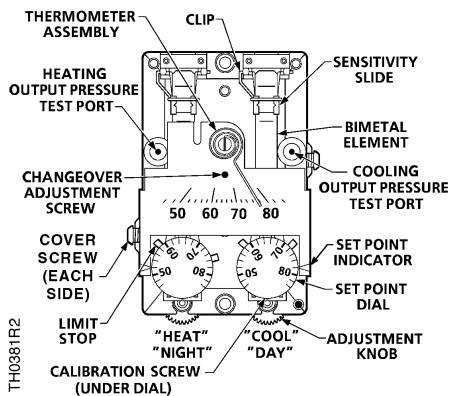

Figure 4. TH193 HC Thermostat Details.
- Place a screwdriver in the center of the thermometer assembly (Figure 4). Carefully rotate the thermometer assembly until the pointer tip indicates the correct room temperature.
To change the limit stop settings, use a needle nose pliers to pull limit stop (Figure 4) between the setpoint cam gear teeth. Do not pull the limit stop any more than necessary to clear the gear teeth. Rotate the limit stop to its new position. Changing the limit stop position one gear tooth changes the limit stop setting by 1-1/3°F (0.7°C).
The factory thermostat sensitivity setting is approximately 2.5 psi/°F (31 kPa/°C). To change the sensitivity, use a flat-blade screwdriver to carefully move the sensitivity slide (Figure 4) to the desired position as follows:
4. Check the control pressure. If it does not read 7 to 8 psi (48 to 55 kPa), turn the calibration screw (Figure 4) using the calibration tool or a 1/8-inch (3.2 mm) wrench until the pressure is 7 to 8 psi (48 to 55 kPa). The sensing element is now in calibration and the setpoint can be changed to the desired room temperature.